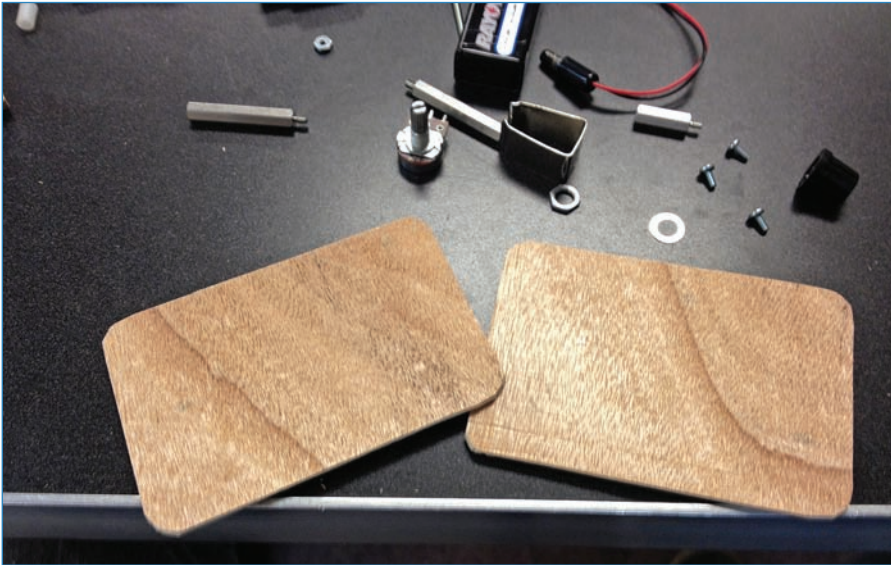

FIGURE 10.10 The first step is to cut out the Noisemaker's top and bottom.
1. Cut the top and bottom out of 1/8" plywood, as shown in Figure 10.10. I made mine 3" x 4", and used a disk sander to round the corners.